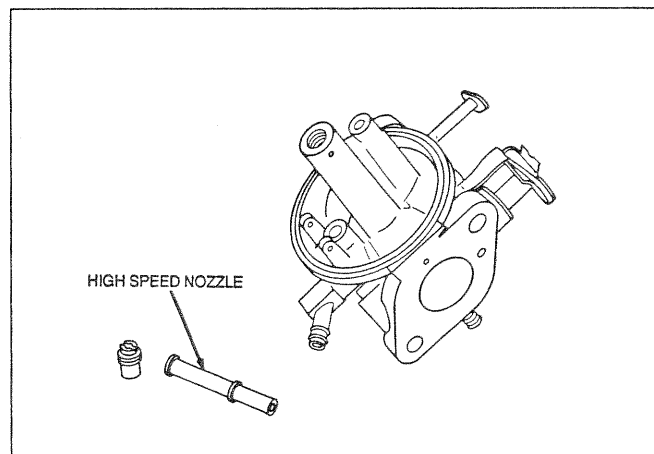

Figure 129. High Speed Nozzle Removal
- Remove the high speed nozzle (Figure 129). Reach into carburetor throat with a straight slot screwdriver and push down on end of nozzle.